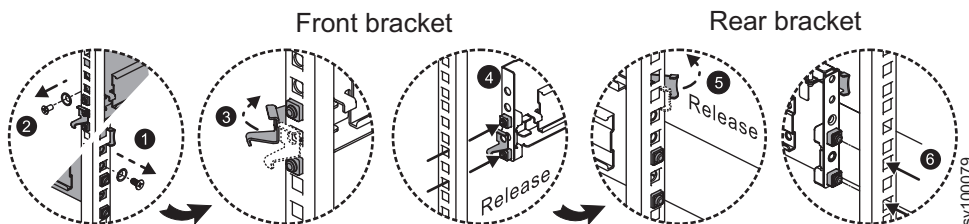

Figure 53. Removing the slide rails
2. Remove the slide rails, as shown in Figure 53.